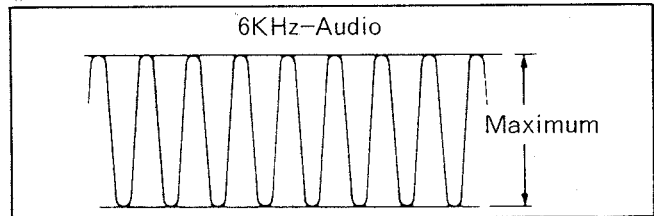

Fig. M15
- Adjust the screw (B) so that the audio output level becomes maximum. (Fig.M15)